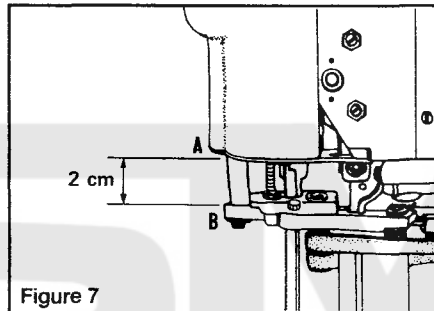

Figure 7
2.11 TO SET POSITION OF BAND PLATE CARRIER A374 (Figure 7)
- Figure 7: Measure distance between Cover "A" (A361) and top of Gear Case "B" (A367). Maximum distance is 25/32" (2 cm) when Screw A363 is adjusted properly.